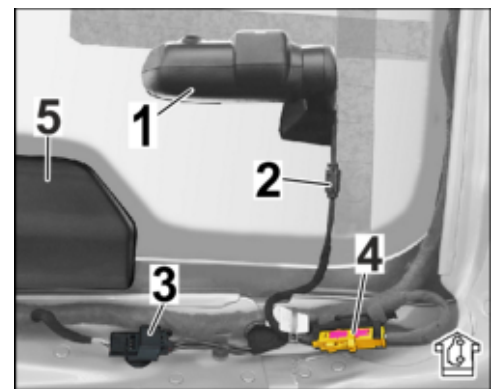

Figure 19 (example 9YB)
3.4.3 Dismantle video signal connector from holder (⇒ *Figure 19 (example 9YB) -4-*).
3.4.4 Connect plug connection for power supply pre-fitting. (⇒ *Figure 19 (example 9YB) -3-*)